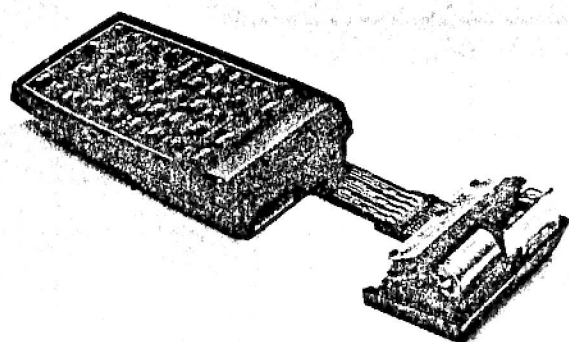

Figure 4-2. Test Setup
- d. **Connect the card reader** to the port extender. (See figure 4-2.)